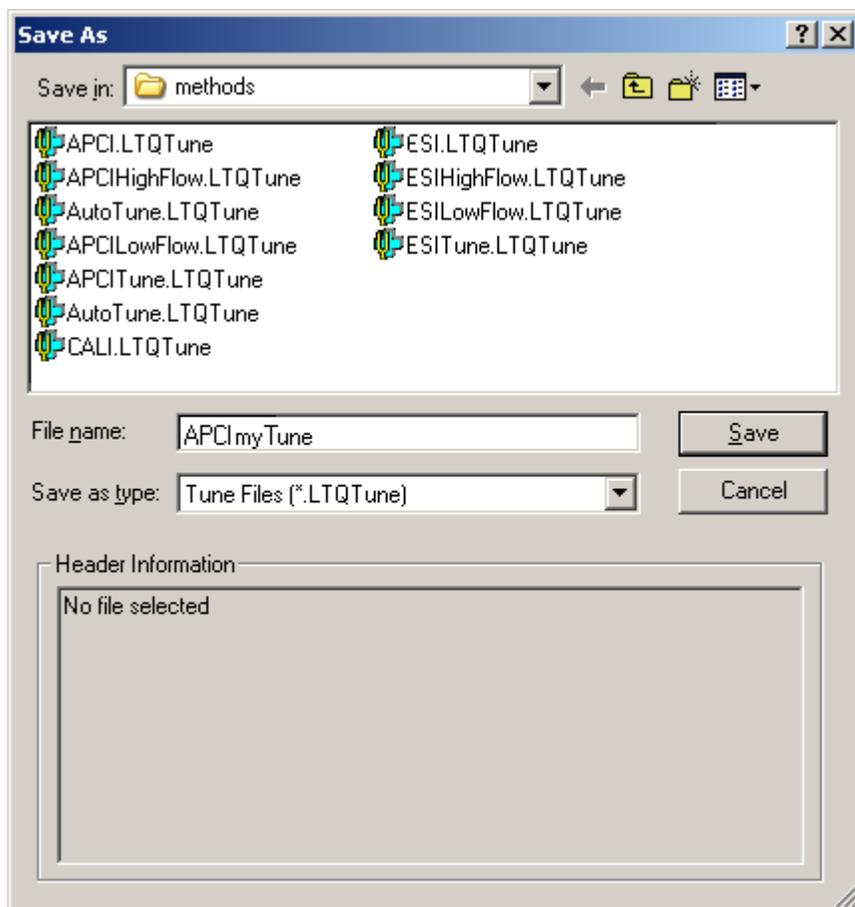

Figure 62. Save As dialog box, showing files in the folder C:\Xcalibur\methods
1. Choose **File > Save As** to display the Save As dialog box. See Figure 62.